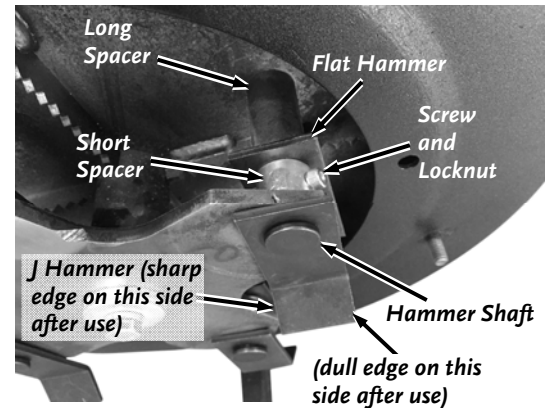

Figure 30
2. Use a 5/32" Allen Wrench and a 3/8" Wrench to remove the Screw and Locknut from one of the Short Spacers (**Figure 30**).